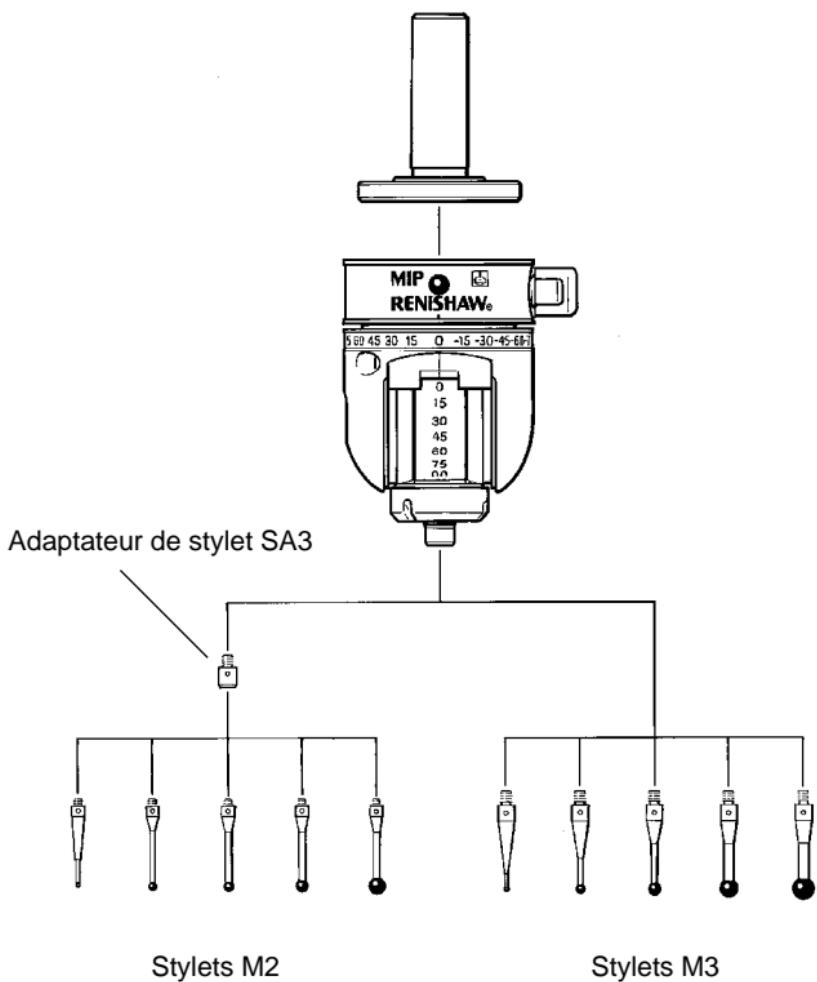

Figure 7 - Stylets
8.1 Stylets (Voir la Figure 7)